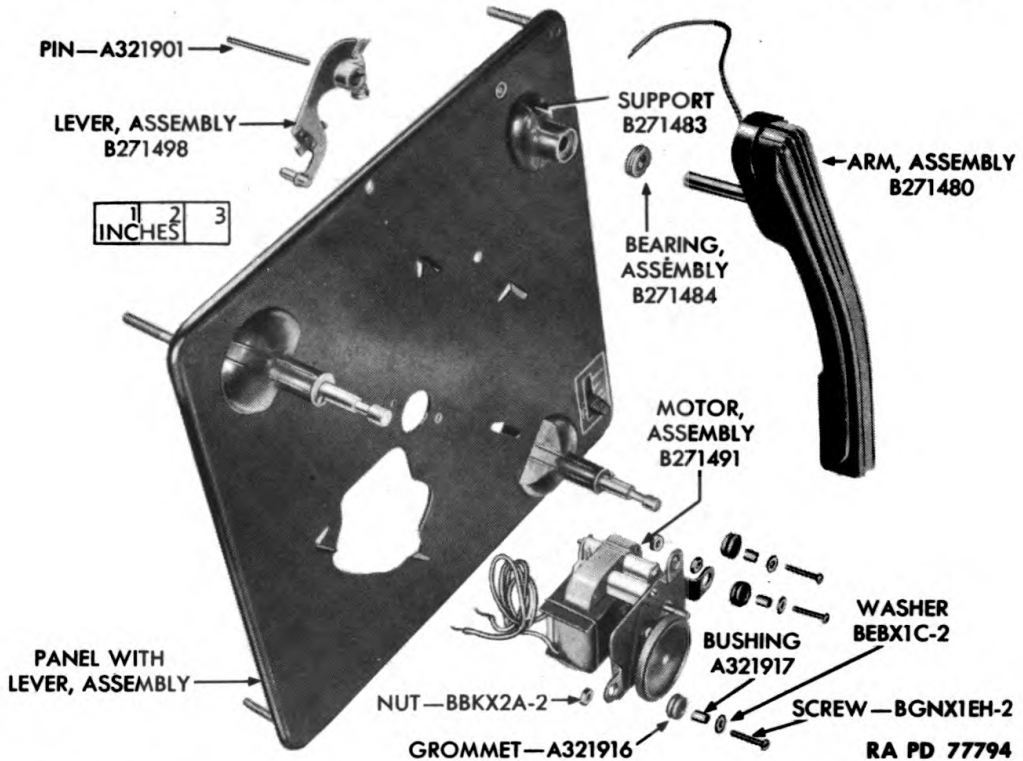

Figure 65 — Record Changer — Motor and Tone Arm Removed
(11) Remove the tone arm assembly (fig. 65) by loosening the hexagonal-head cap screw in the lever assembly. Pull the tone arm from the lever, taking care not to misplace the bearing assembly or the pin A321901. The component parts of the tone arm assembly are shown in figure 67.
(12) Remove the three screws, washers, bushings, rubber grommets, and the hexagonal nuts fastening the motor assembly (fig. 65) to the panel assembly. The pulley (fig. 66) can be removed by removing the cotter pin and plain washer. Do not misplace the felt washer.